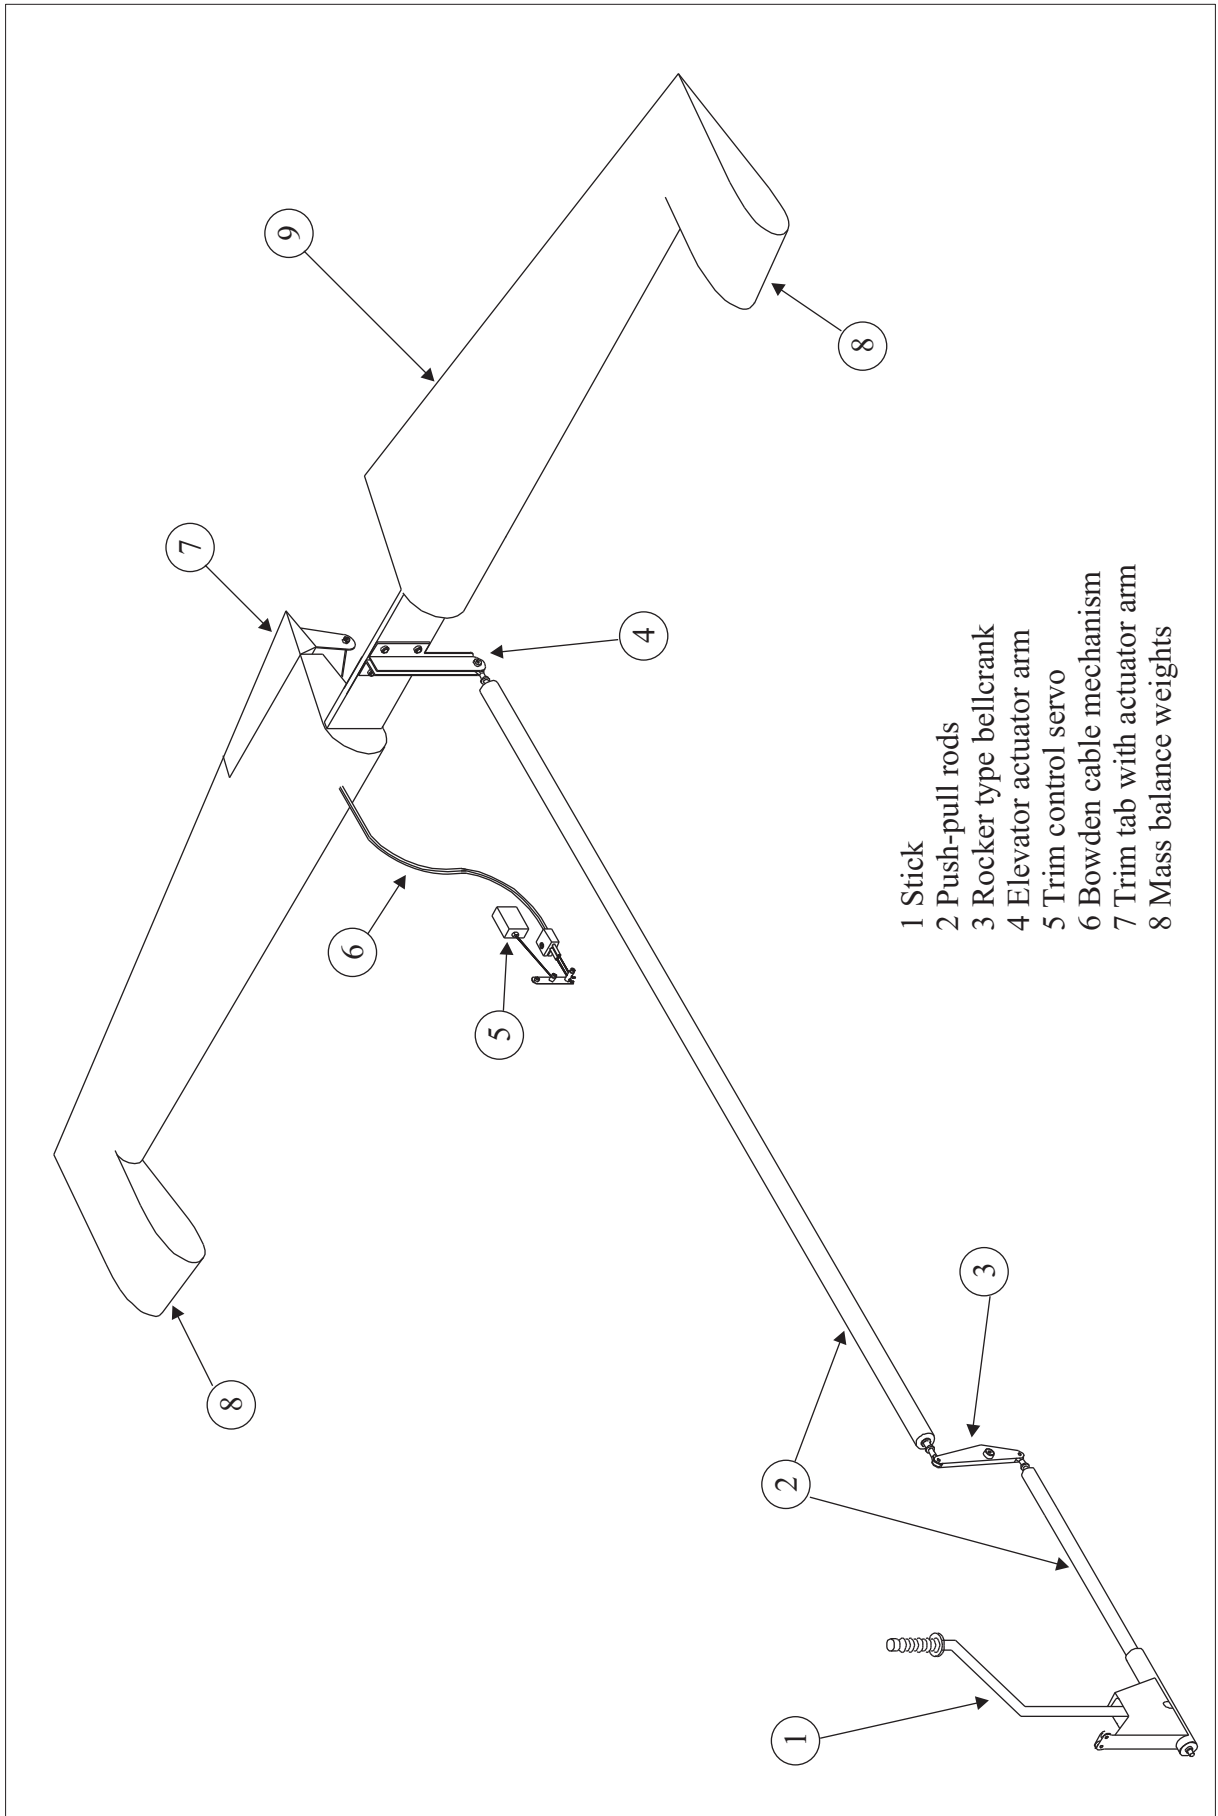

Figure 19
Refer to Figure 19. The control movements are transferred from the control stick (1) to the elevator (9) by push-pull rods (2), a rocker type bellcrank (3) and an actuator arm (4). The bell crank has a sealed ball bearing. The elevator is mounted at five points in spherical bearings pressed into aluminium hinge arms. For lightning protection reason each hinge arm is grounded to the corresponding attachment bracket at the elevator by bonding leads. The travel stops are located at the torque tube.